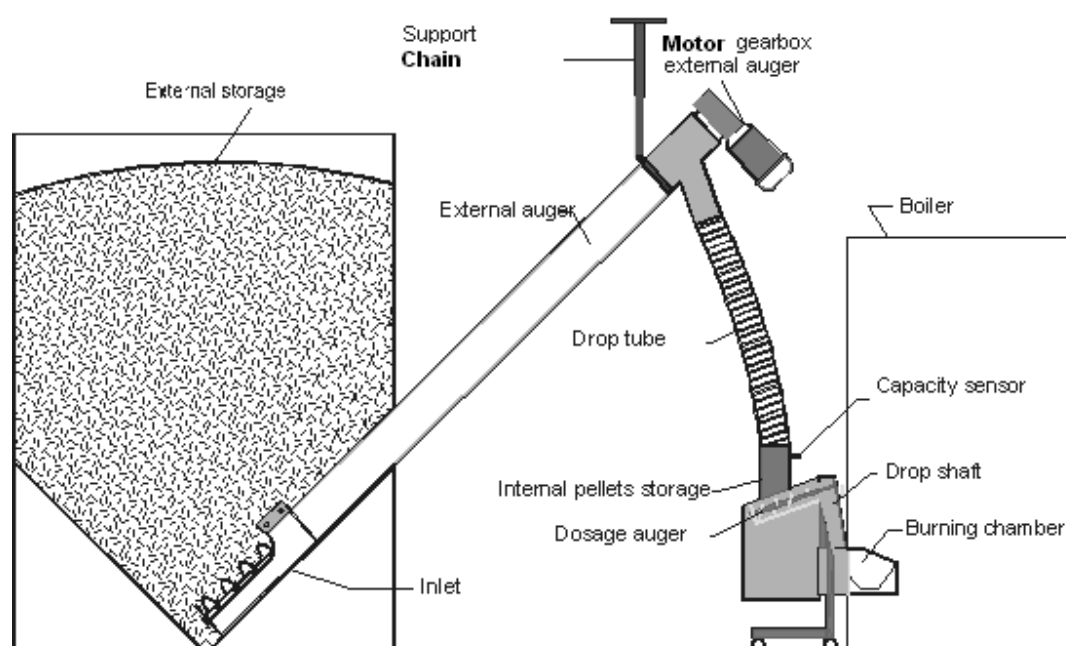

Figure 5. Function description
2. Adjust suspension chain of external auger so that auger outlet is only slightly offset above the internal hopper of burner with burner in place (see Figure 5. Function description). Make sure the burner drop tube is nearly vertical.